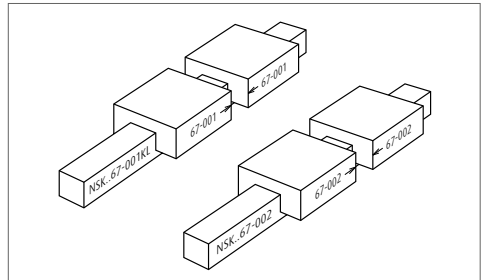

Fig. 29 When two rails have the same reference number
- › When two or more rails are used in a single set, serial numbers are in sequence if their reference numbers are the same. The linear guide with smallest serial number has the "KL" mark (**Fig. 29**).